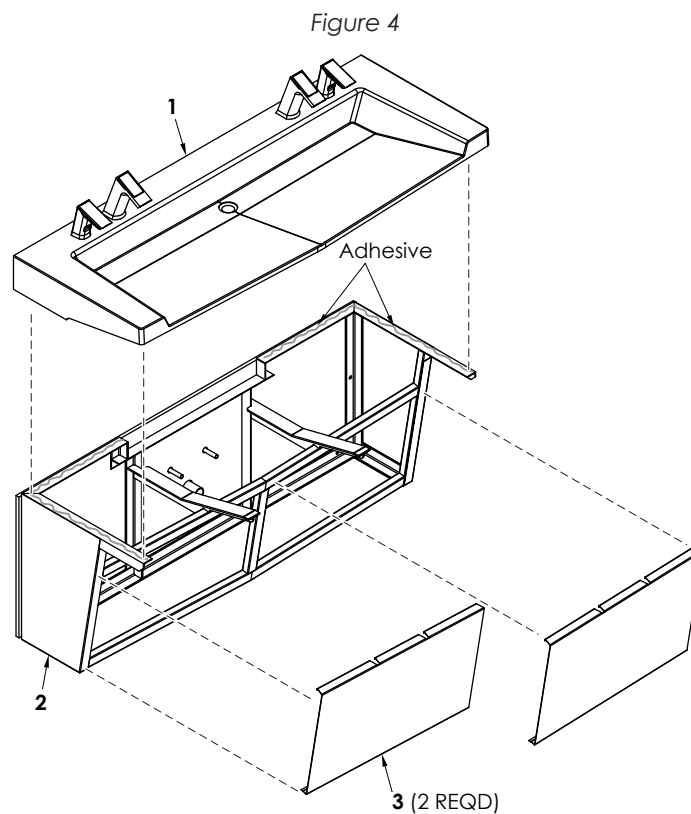

Figure 4
4. Install Deck (1, Figure 4) onto Enclosure (2).
- a. Apply adhesive (not supplied) to the top of Enclosure (2).
- b. Lower Deck (1) onto Enclosure (2). Shim all gaps between Enclosure (2) and Deck (1).
5. Remove any and all protective tape and/or wrap. Attach Access Panel (3) on Enclosure (2).